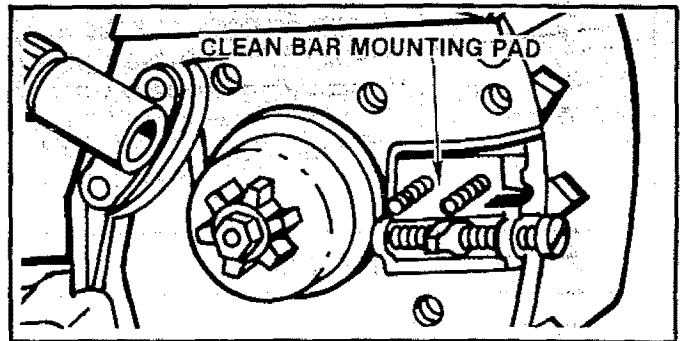

Figure 37
4. Remove all sawdust and oil from the drive sprocket and bar-mounting pad area of the saw. Figure 37.